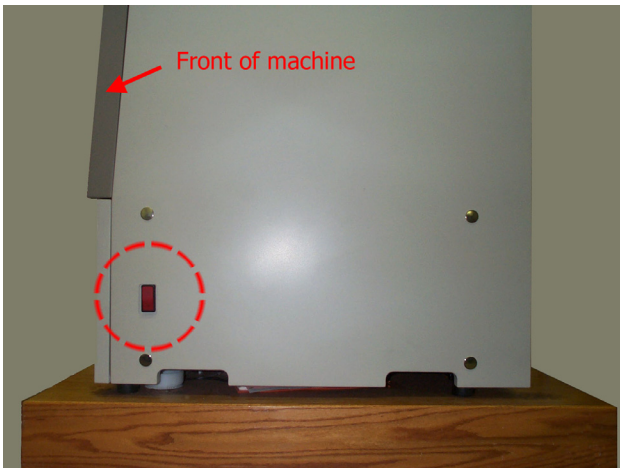

Figure 4. Location of Power Switch
Prodigy Plus's power switch is located on the right side of the cabinet, near the bottom (see Figure 4 on page 17). After the switch is pushed, Prodigy Plus boots up in 3 to 7 minutes.
If you wish to power-off Prodigy Plus, simply flip the large red power switch on the lower right side of the cabinet (see Figure 4). System cooling fans continue to operate for several minutes ensuring a safe, systematic power down and cooling of the system.
1. Flip the power switch located at the lower right side of the cabinet (Figure 4 on page 17) to the OFF (down) position. Wait for the machine to completely power down.
3. Wait ten (10) seconds and then flip the circuit breaker to the ON (up) position.